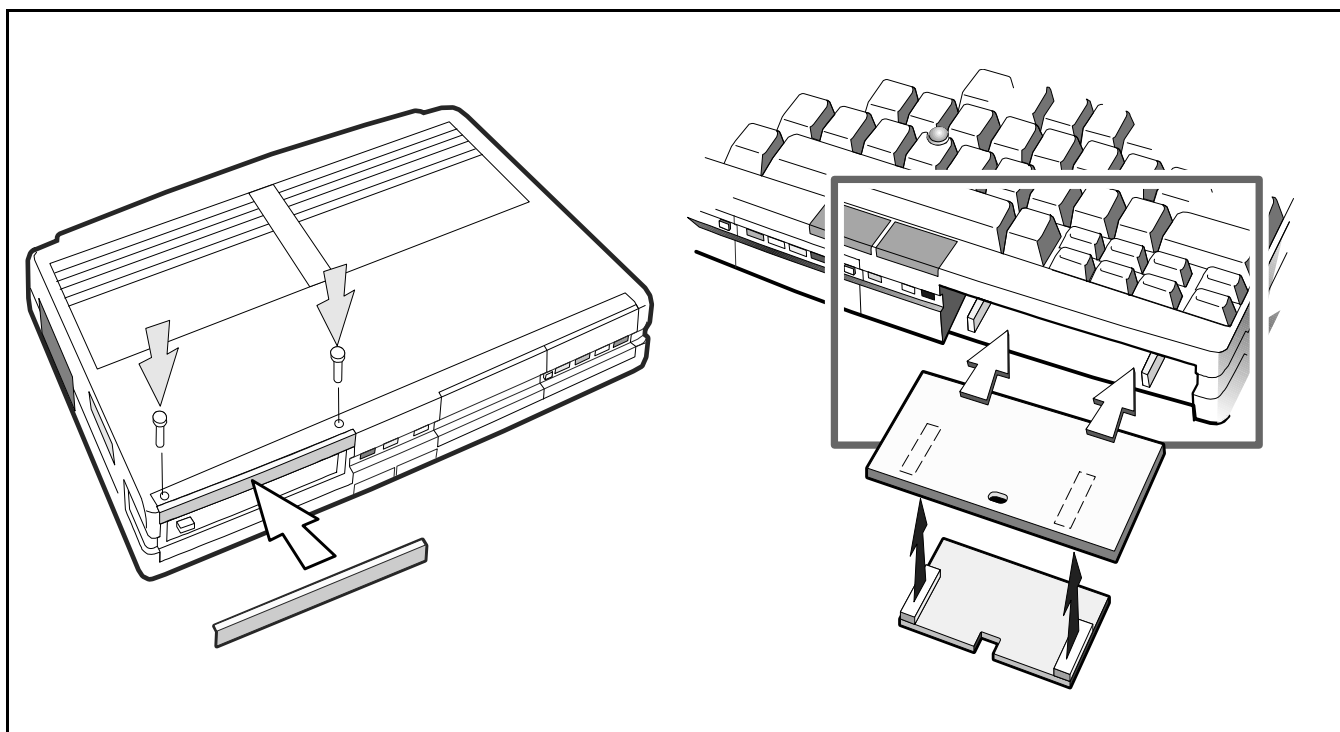

Figure 5-8 Expansion RAM Board(s), Removal/Replacement
4. Remove the two holding screws and remove the floppy bezel as shown in Figure 5-8.